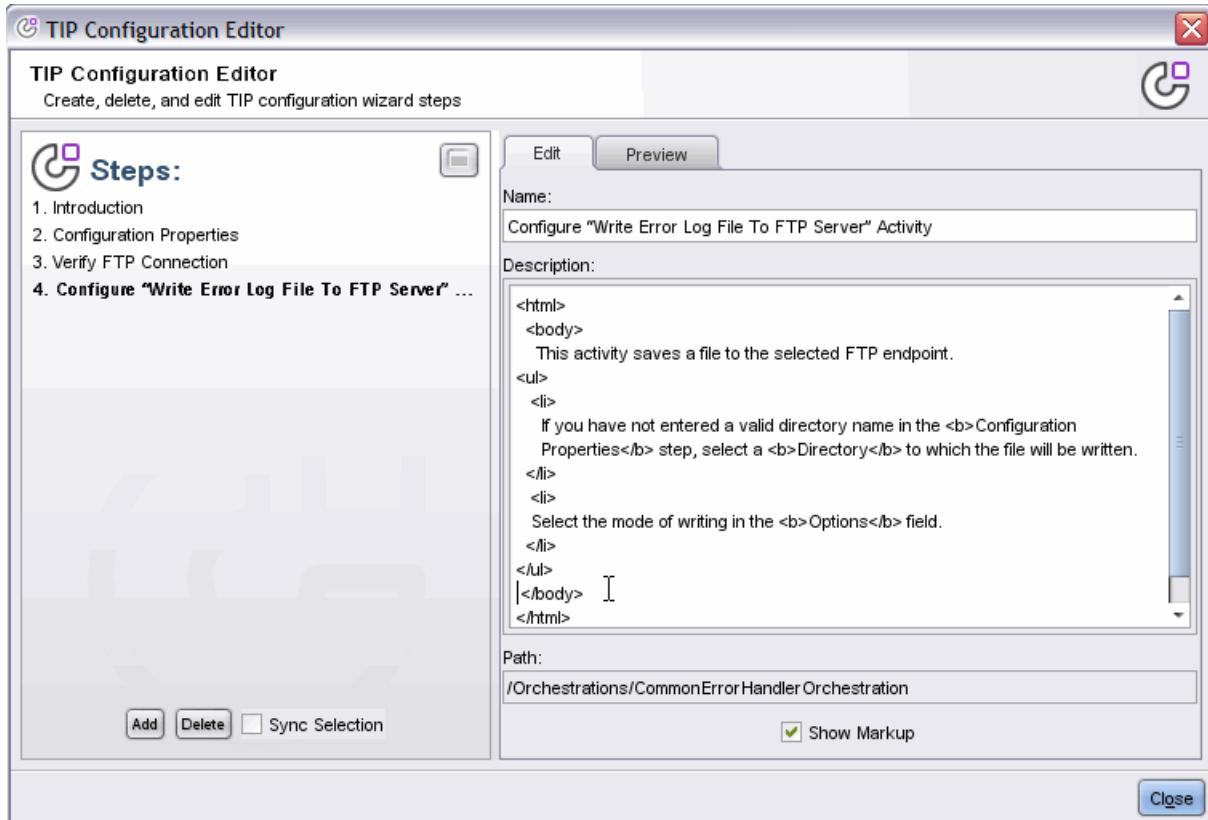

Figure 7-13 Configure "Write Error Log File To FTP Server" Activity step
- Enter the instructions in the Description field, as shown in Figure 7-13 on page 303.